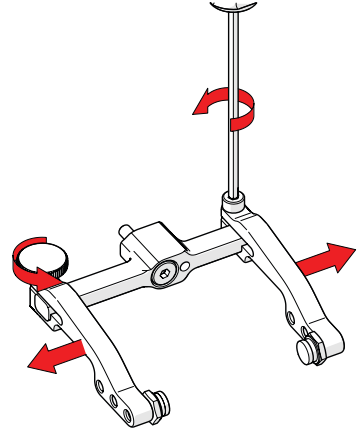

Fig. 121 - Remove probe holder arms
3. Loosen the probe holder arm adjustment knob and the arm clamp screw. Slide the probe holder arms off the yoke (Fig. 121).